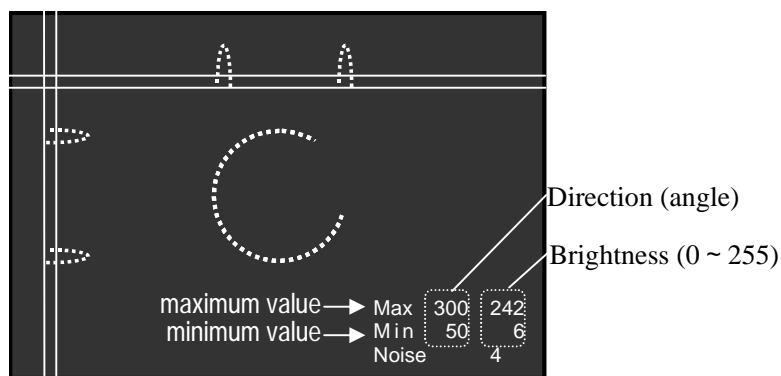

Figure 3
- 5) Then, follow the same procedure for check of image to check the image. (See page 22.)(Figure 3)
- 6) Then, follow the same procedure for check of image to check the image. (See page 22.) (Figure 3)